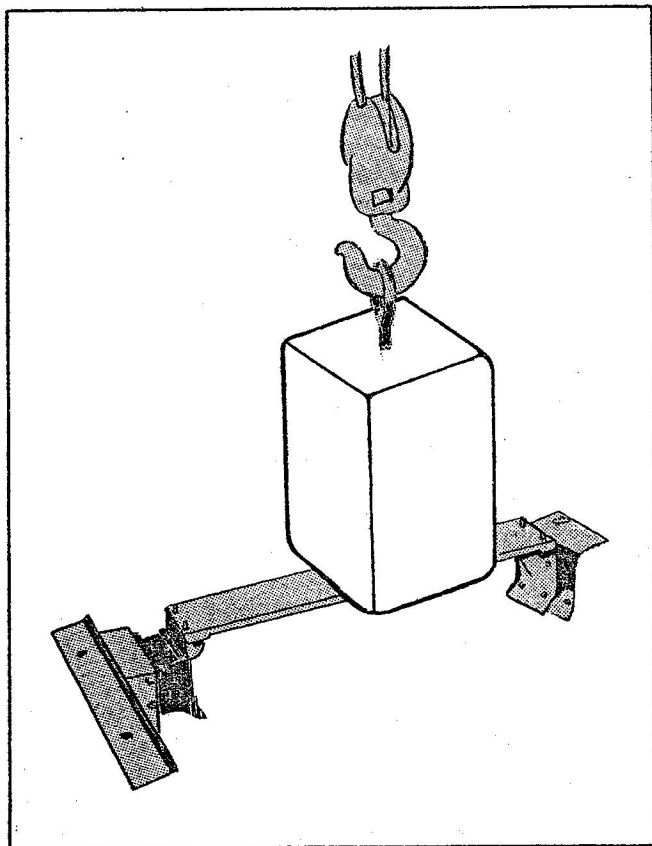
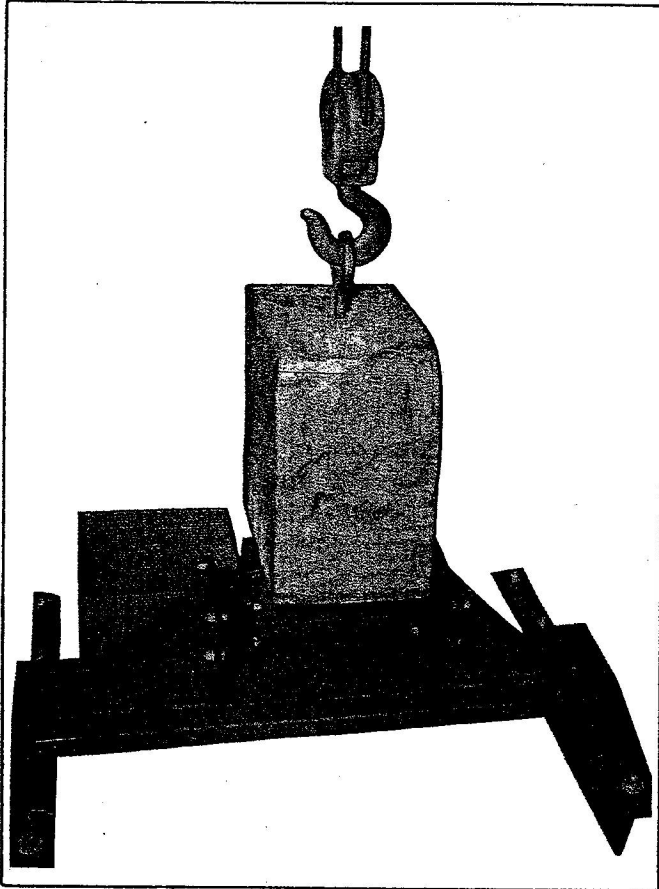

Figure 3-1 Weight Test of
Figure 3-2 Weight Test of
(1) Shear type mounts should be stressed in shear by a weight which will result in weight distribution similar to that of an engine. A weight and support bracket similar to that shown in Figure 3-1 may be used to accomplish this test. The support bracket is not required to test the front shock mounts, see Figure 3-2. Upon application of the weight, rock the weight back and forth, not to exceed 20% of the thickness of the mount. Inspect for cracks and bond separation.